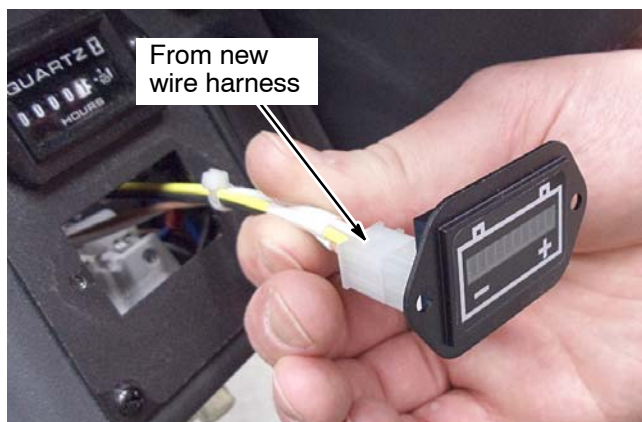

Fig. 19
18. Install the new battery discharge indicator (BDI) and connect the new wire harness as shown (Figure 19). Discard the wire harness that is packaged with the new BDI. It's not required.